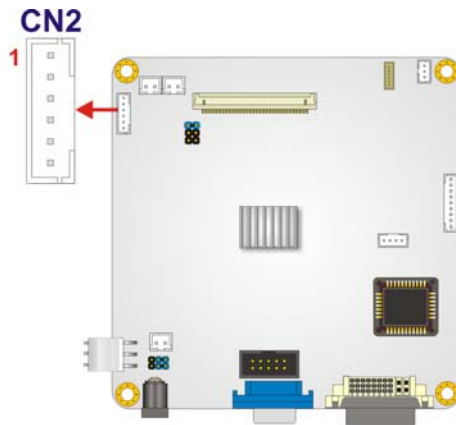

Figure 4-30: Backlight Inverter Connector Location
- CN Location: See Figure 4-30